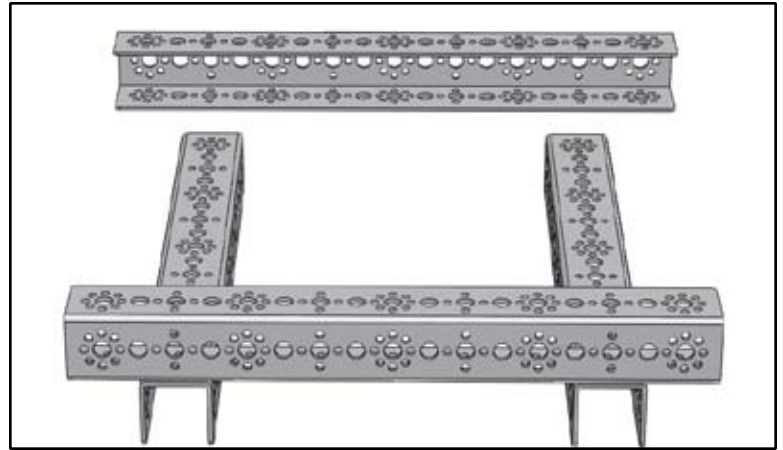

Figure A1
- 1) Set two 288 mm channel pieces side by side with the open end of the U-shape facing down. Set two more 288 mm channel pieces across the first two, but with the open end of the U facing in toward each other (Figure A1).